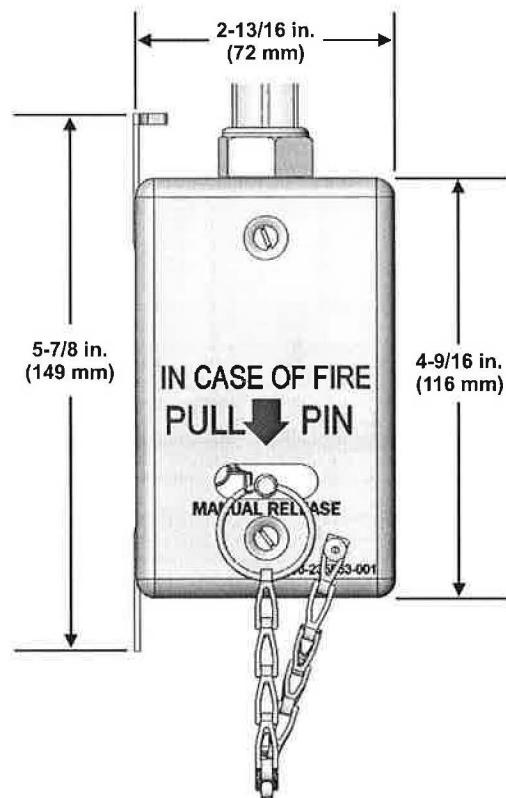

Figure 2-37. Recess Mounted End-of-Line, Remote Manual Release, P/N 9197461
- In-Line Surface Mounted Remote Manual Control (with In-Line Kit), P/N B100030 (Figure 2-37)
- designed for use at the end of the detection line (Figure 2-37).